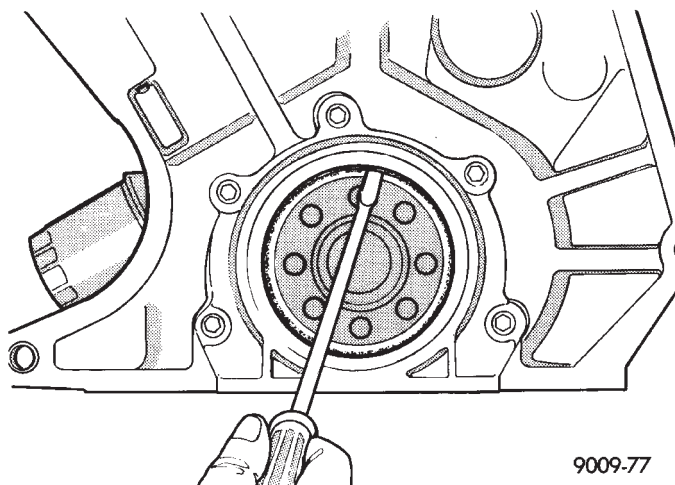

Fig. 54 Rear Crankshaft Oil Seal—Removal
(1) Insert a 3/16 flat bladed pry tool between the dust lip and the metal case of the crankshaft seal. Angle the pry tool (Fig. 54) through the dust lip against metal case of the seal. Pry out seal.